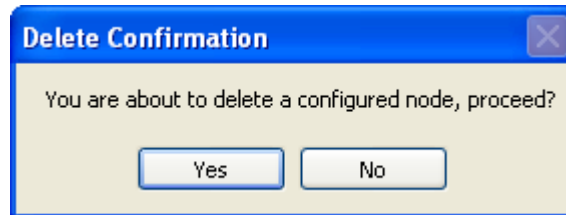

Figure 46 - Delete Confirmation Message Window
2. A message window (Figure 46) appears asking you to confirm the deletion.